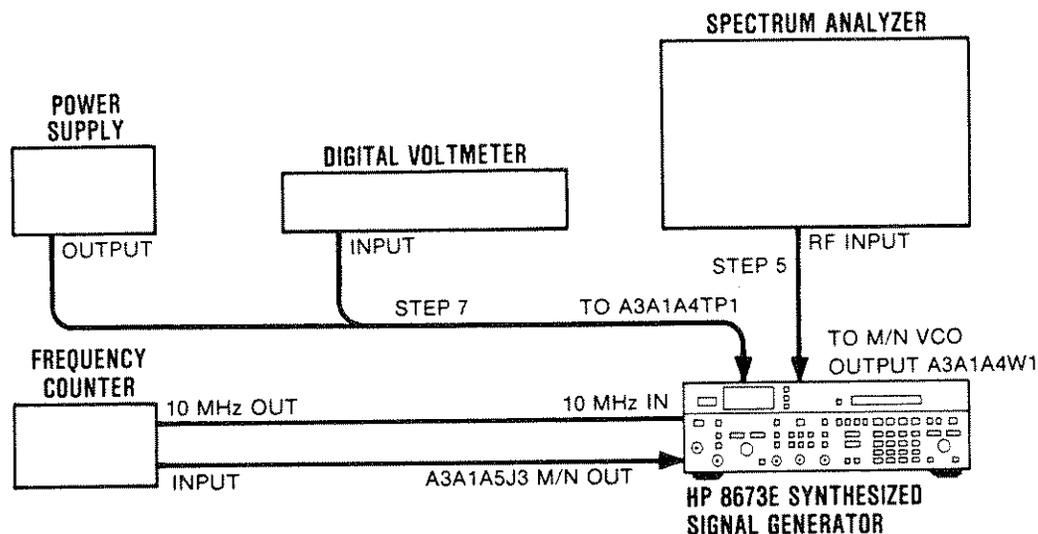

Figure 5-6. M/N Loop Adjustment Test Setup
2. Connect the equipment as shown in Figure 5-6.